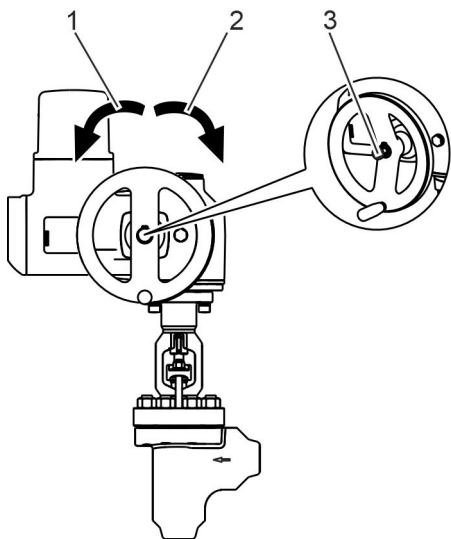

Fig. 19: Electric actuator: Using the handwheel in an emergency
2. ➤ Couple the handwheel (Fig. 19/3).
- Turn clockwise (Fig. 19/2): Closes the valve.
- Turning anticlockwise (Fig. 19/3): Opens the valve.